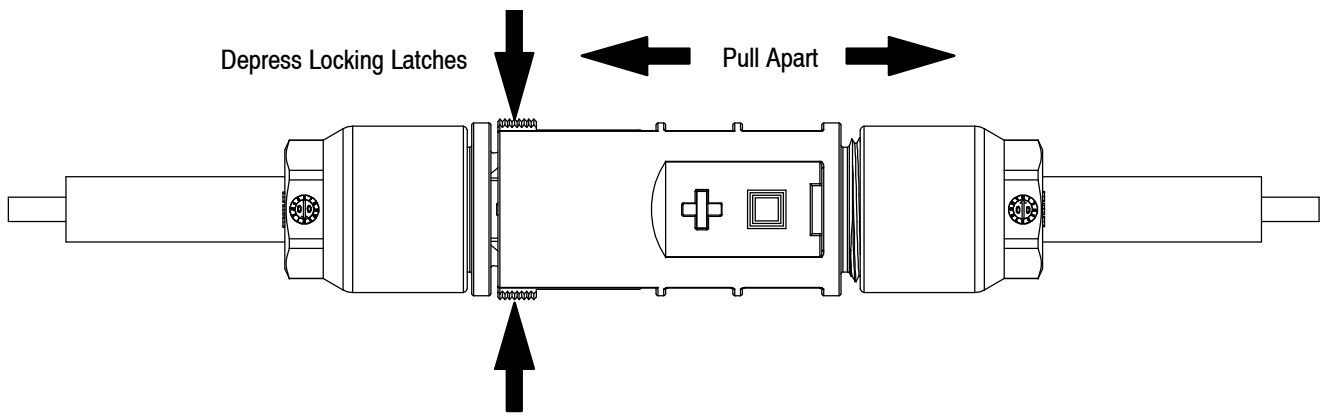

Figure 12
- The locking mechanism is opened by depressing the latches as shown in Figure 12.